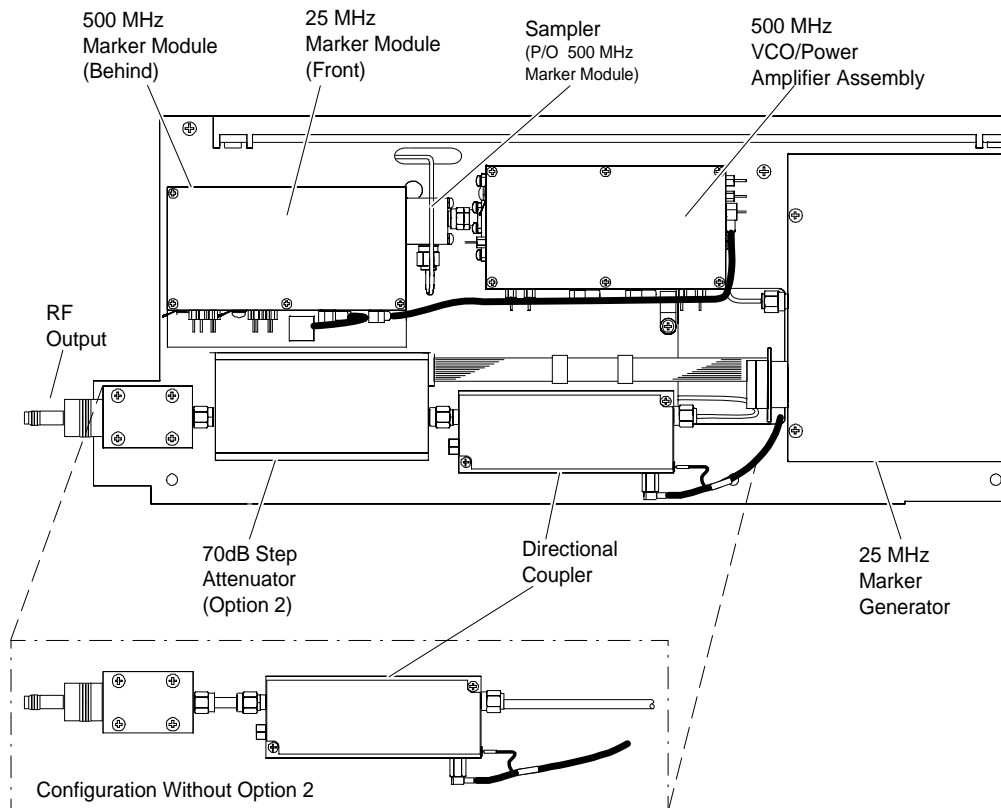

Figure 7-20. Models 54177A RF Deck Parts Location (External Side Detail)
This paragraph provides instructions for removing and replacing the microwave components on the 54177A RF deck. Procedures are organized by component. Refer to Figures 7-20 and 7-21 for component locations. In all cases, the replacement procedure is the reverse of the removal procedure.
Step 3. Remove two screws from attenuator package ("X" in Figure 7-20), disconnect the remaining RF connector, and lift the attenuator straight away.